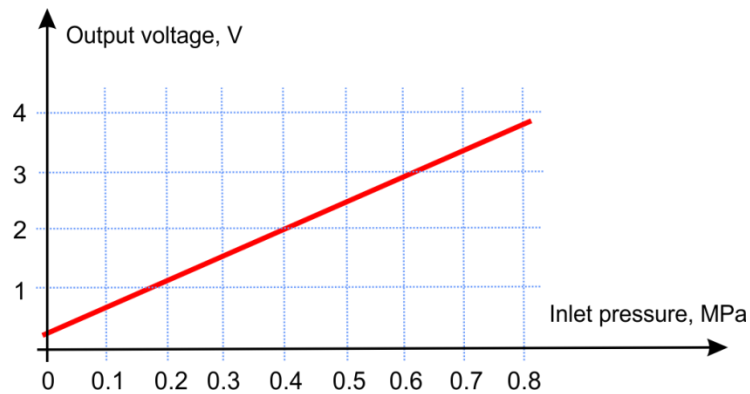

Figure 11 – GNOM DDE output voltage versus pressure characteristic
**2) Output signal voltage value** of GNOM DDE is linearly dependent on the value of pressure of compressed air on sensor output (see figure 11).